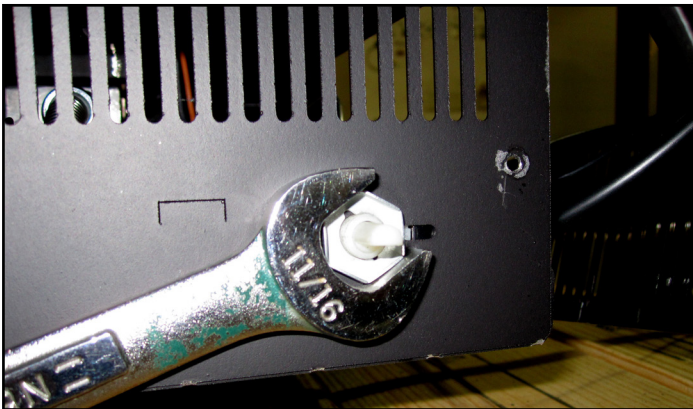
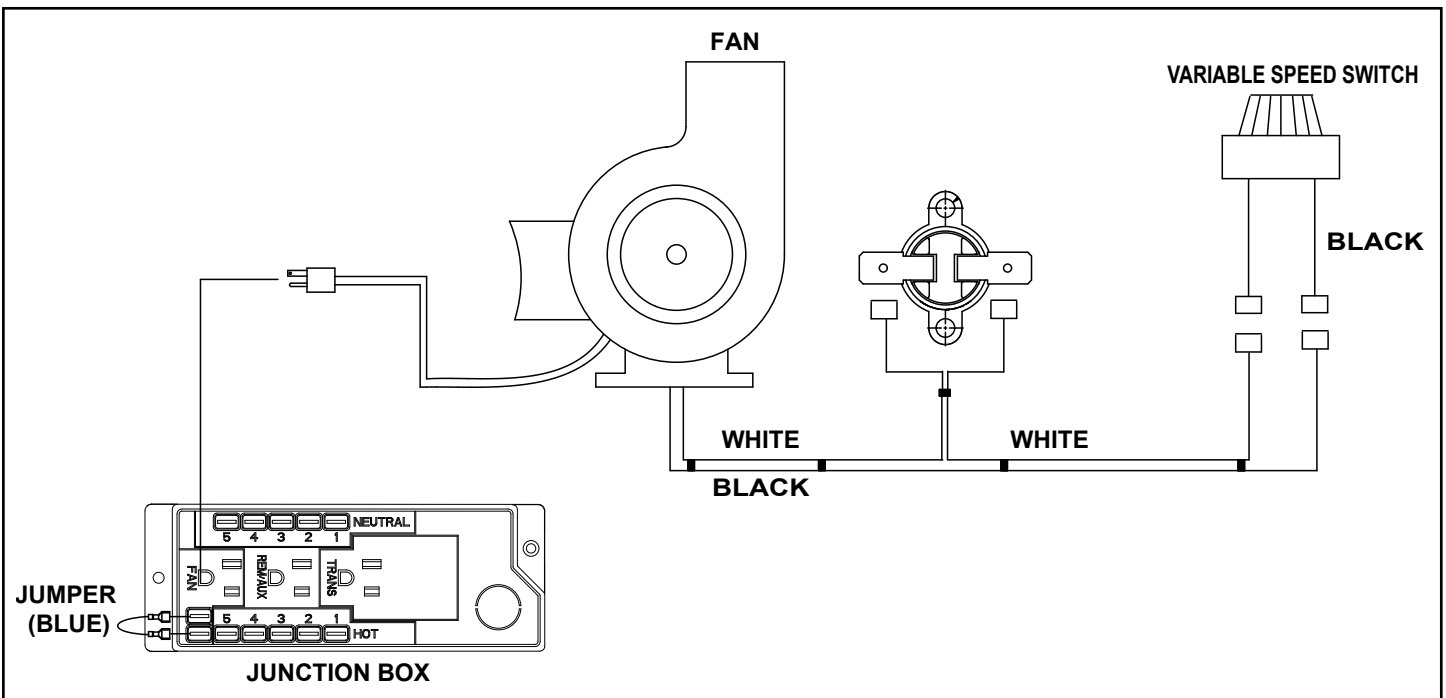

Figure 8.8 - Mount Speed Control Using Pal Nut
Figure 8.9 - Fan Wiring Diagram
- Install the speed control (rheostat). The speed control mounts to the right rear corner of the component tray. Insert the stem of the speed control through the hole located on the right side of the cover. Secure with the pal nut using an 11/16 in. (17.5 mm) wrench See Figure 8.8. Attach the black and white wires routed under the appliance indicated in Figure 8.9 (wiring diagram), to the variable speed switch wires. Use the blue jumper wire provided in the appliance component bag to make the connection on junction box terminals as shown in Figure 8.9. Push the speed control knob onto the stem. Secure any extra wire up and out of the way using the zip tie provided.
- Plug the fan into the receptacle labeled “FAN” on the junction box. See Figure 8.9. The blower will not run until the appliance has heated up enough to activate the snap disc. This can take up to 15 minutes depending on the temperature of the room. Likewise, the blower will not automatically turn off until the appliance has cooled off enough to turn off the snap disc.